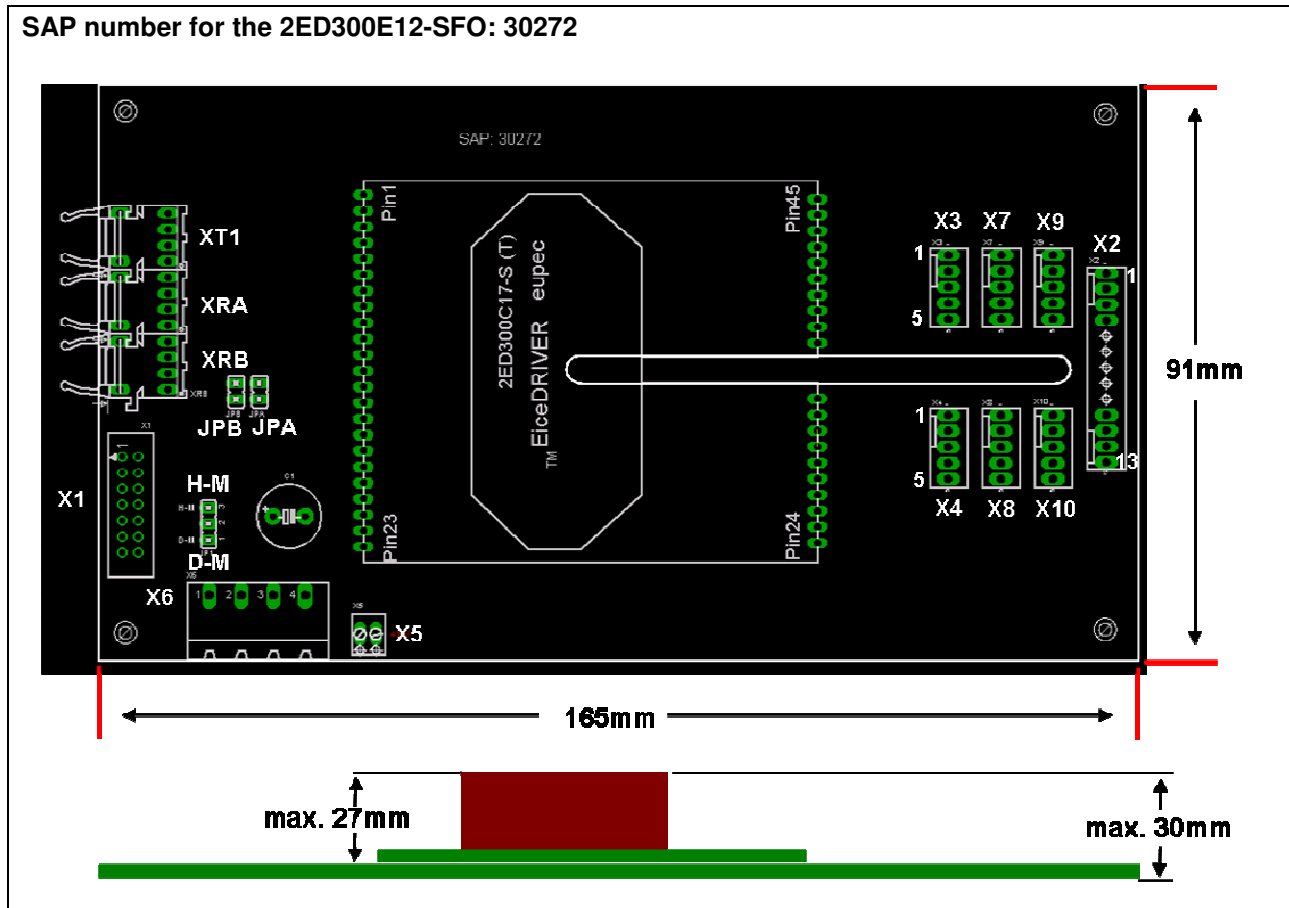

Figure 3 Dimensions of the 2ED300E17-SFO
The 2ED300E17-SFO outline assembled with driver is shown in Figure 3.
Electrical interface is simply activated by applying suitable signals¹ to appropriate pins in connector X1 as described in chapter 2.4, Table 4 and Table 5. Jumpers JPA and JPB visible on Figure 3 in that mode must be open.
When IGBT is driven using optical interface the fiber optic cables should be connected to receiver XRA in order to drive channel A and respectively XRB to drive channel B. Jumpers JPA and JPB in that case must be closed (Figure 3). No electrical signals except power supply connected to X1 are needed. Other connections should be removed. Keeping power supply connected to X5 or X6 and leaving X1 completely unconnected seems to be the easiest solution.
- Direct mode – means that both channels A and B are working accordingly to PWM signals. It is possible to switch on both channels A and B at the same time. This operation mode can be activated by setting the JP1 jumper on position marked as D-M (shorting pins 1 and 2 on Figure 3). When jumper JP1 is used there is no need to short X1.12 to GND of power supply
- Half-bridge mode is especially useful when IGBTs are driven in half bridge configuration. By proper selection of capacitor values C4 and C5 the required dead time between channels A and B can be provided. This operation mode can be activated by setting the JP1 jumper on position marked as H-M (shorting pins 2 and 3 on Figure 3). When jumper JP1 is used there is no need to short X1.12 to V_{DC}. Table 8 shows how dead time depends on these capacitors value. The dead time with not connected capacitors is 1,6μs.